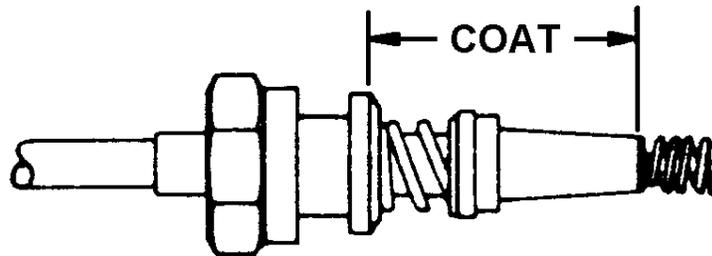

FIGURE 19-25. COATING INSULATING SLEEVE
- c. To prevent sticking of sleeves and to minimize twisting of ferrule coat insulating sleeves, use MS122N/C02 Spray, Miller-Stephenson Chemical Co., Inc., 16 Sugar Hollow Road, Danbury, Connecticut 06810. See Figure 19-25, "Coating Insulating Sleeve."